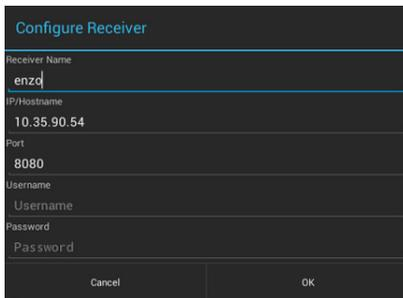

**FIG. 45** Enzo - Successful Test Message
7. To test the connection, press the *Share Content* icon in the RECEIVER LIST to send a test message to the Enzo unit. If the Enzo is communicating properly with the panel, it will indicate the test message on its connected display (FIG. 45):